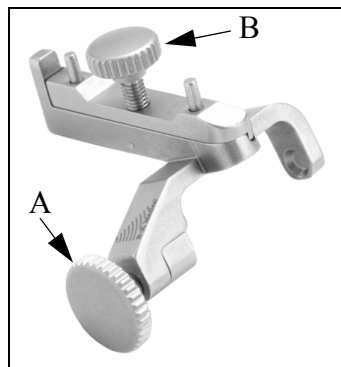

Figure 3. Puncture attachment UA 1250.
The puncture attachment (see Fig. 3) comprises an attachment bracket, an attachment lock screw (item A in Fig. 3), a needle guide, a needle-guide lock screw (item B in Fig. 3) and a variable diameter holder for fine needles (0.6 mm or 24 gauge) and large bore needles (2.4 mm or 13 gauge). The guide channel is angled at 18° to the transducer's image axis.
Note: When mounted the attachment lock screw (item A in Fig. 3) should be on the side of the transducer handle opposite to the transducer's control button.
- 2 Fix the attachment bracket in position by tightening the attachment lock screw (item A in Fig. 3). Tighten the screw up to its "locking point", after which it will not be possible to tighten the screw anymore.
- 4 Using the needle guide locking screw (item B in Fig. 3), adjust the needle guide according to the size of needle to be used.